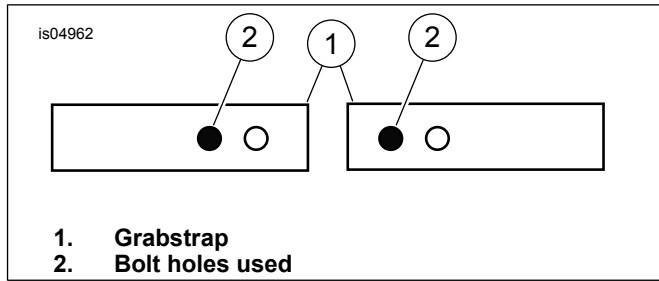

Figure 3. Grabstrap Configuration
*See Figure 3. When installing the grabstrap (1), ensure that the capscrew goes through the grabstrap holes (2) as shown.*